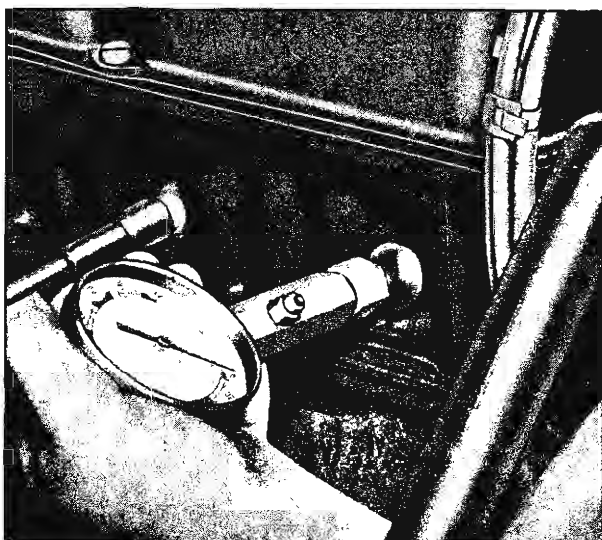

Fig. 2—Checking Compression
- Hook up starter remote control cable and insert compression gauge firmly in spark plug port (fig. 2).